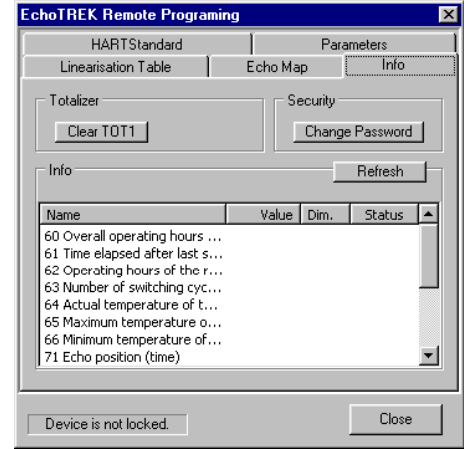

Figure 8
- Informational parameters (viewing), Reset TOT1, using Secret Code (Figure 8)
Clicking on the Info tab the table of the informational parameters can be accessed (Figure 8). For viewing actual information of the relevant field device click on the *Refresh* button.